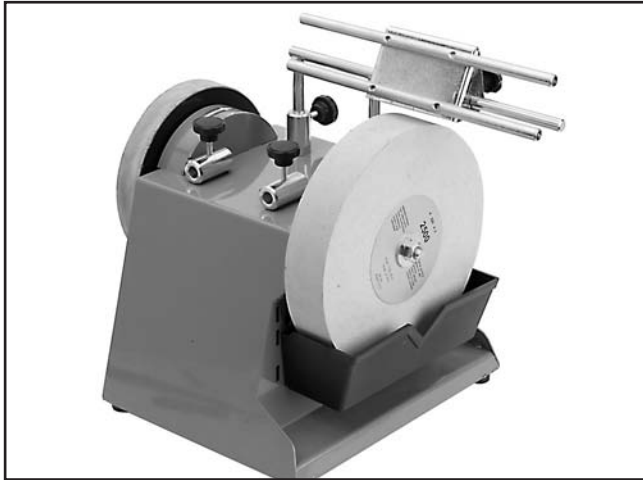

Figure 9. Scissors sharpening jig position.
3. Slide the scissors sharpening jig onto the universal support, as shown in **Figure 9**, and tighten the knobs.